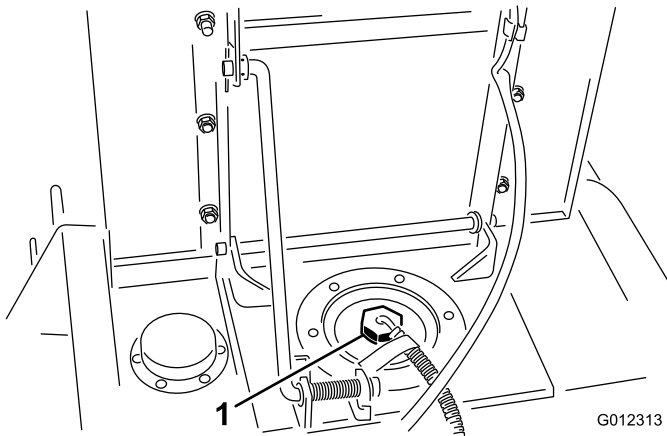

Figure 15
- B. Clean around reservoir cover (Figure 15).